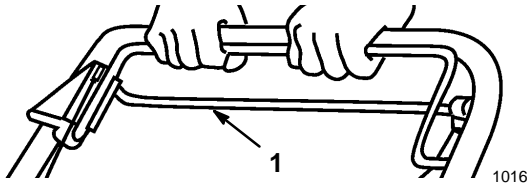

Figure 9
2. To disengage the self-propel drive, release the self-propel bail (Fig. 9), then push the mower forward manually at least 1 in.